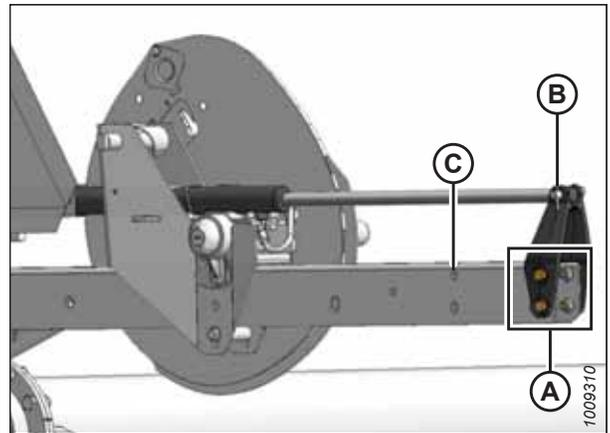

Figure 3.40: Forward Position
6. Remove four bolts (A) securing cylinder bracket (B) to the reel arm.
7. Position reel until bracket (B) lines up with desired position holes (C):
- Forward position, refer to Figure 3.40, page 65